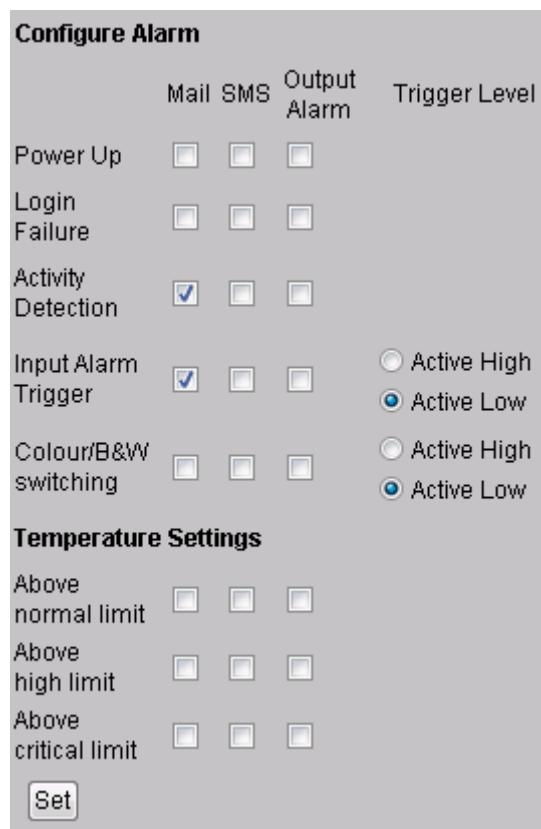
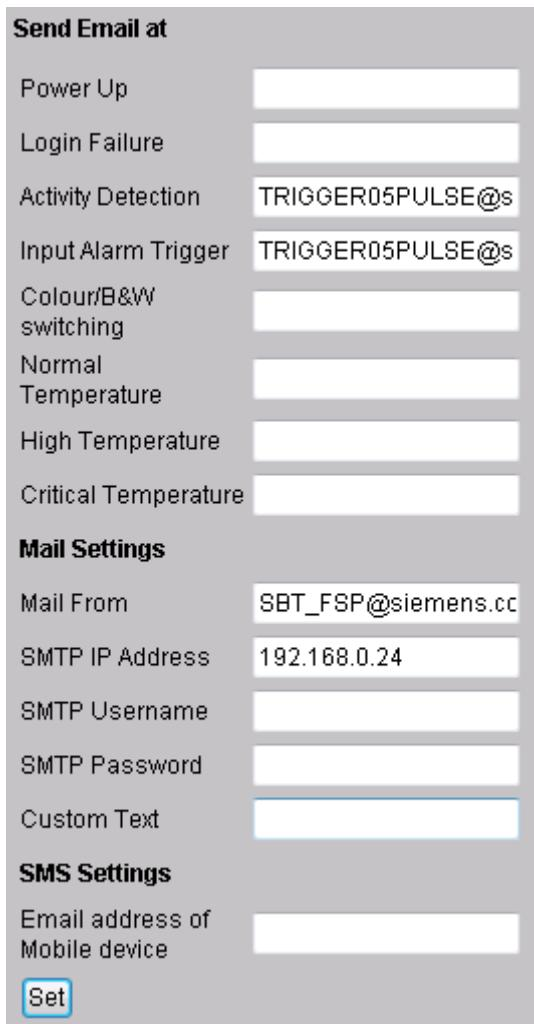

Fig. 18 Alarm configuration
Fig. 19 Email configuration
13. Enter an e-mail address for each of the events (e.g. alarm triggered) you want to be notified of by e-mail in the text fields under **Send Email at** (see Fig. 18 and Fig. 19).